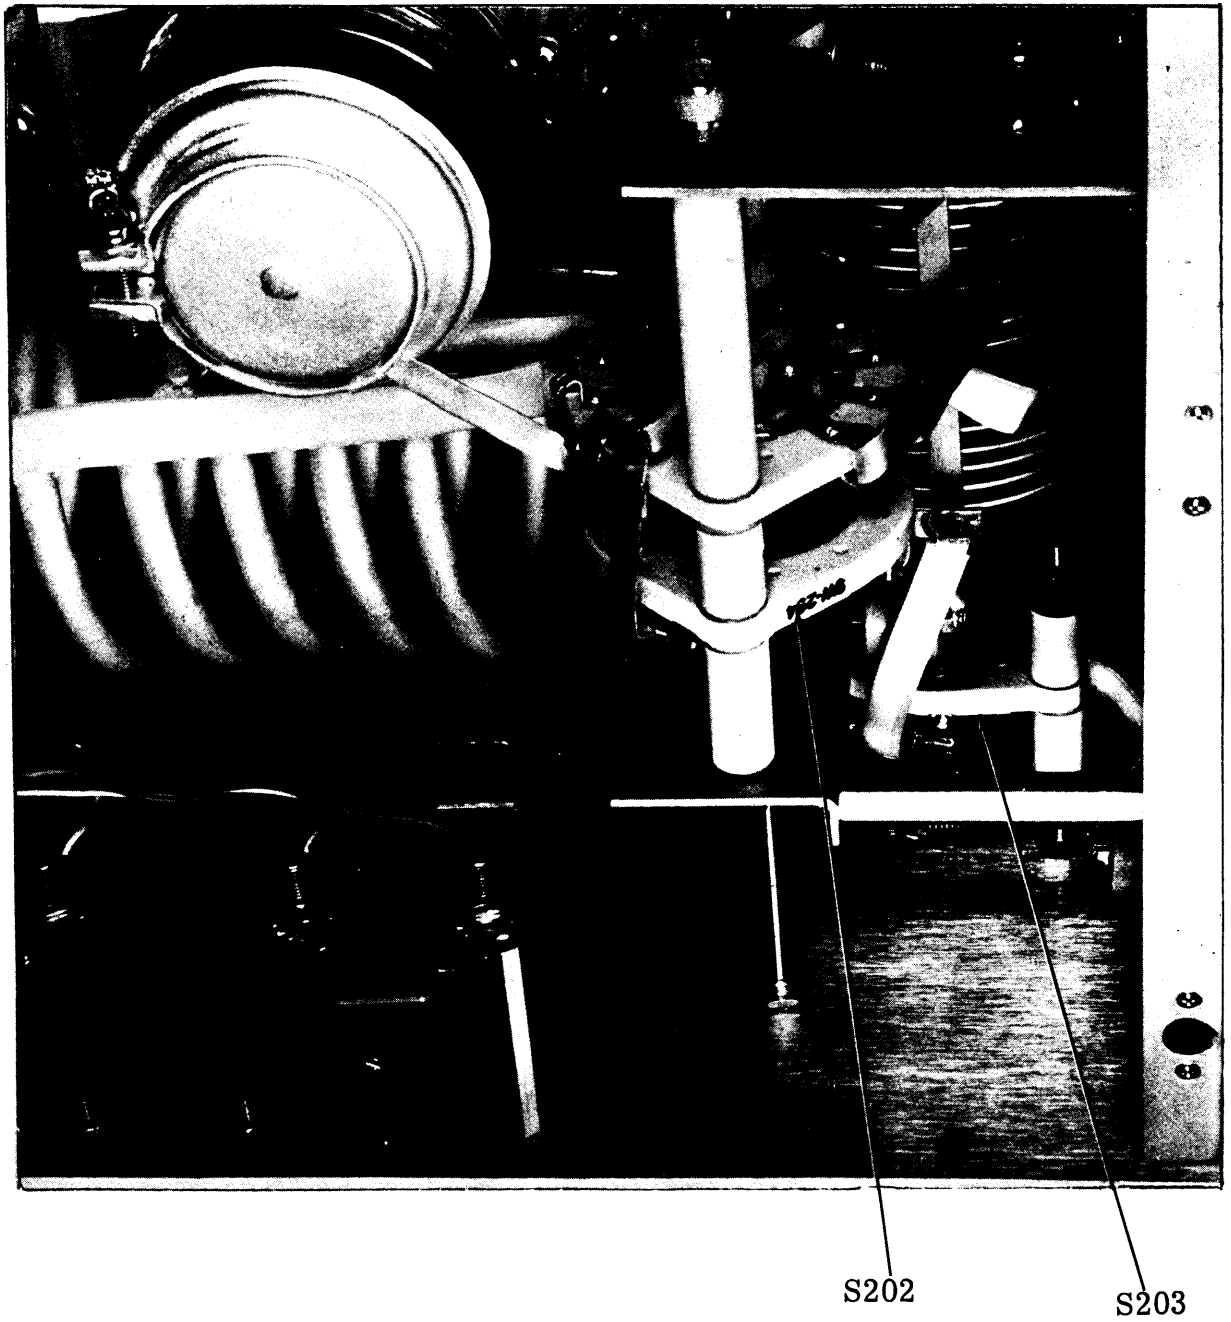

Figure 1. RFD-1A
d. Figure 5-4 should be changed to show PA BANDSWITCH and PA LOADING switch modifications as indicated in figures 1 and 2 of this addendum.
e. The parts list (section 7) should be changed in accordance with items 1, 2, and 3 below: